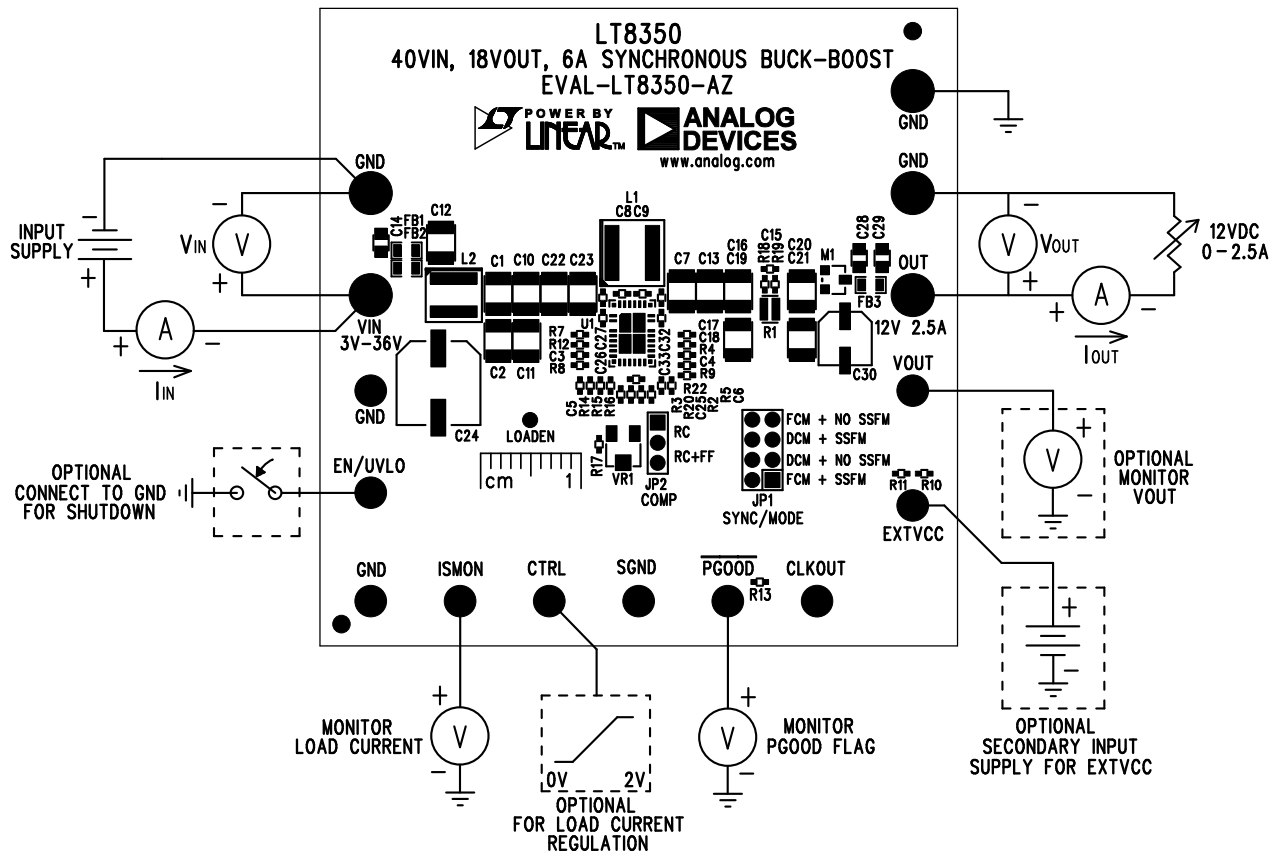

Figure 1. Test Procedure Setup Drawing for EVAL-LT8350-AZ
Evaluation circuit EVAL-LT8350-AZ is easy to set up to evaluate the performance of the LT8350. Refer to Figure 1 for proper measurement equipment setup and follow the procedure below.
1. With power off, connect a load capable of 12V 2.5A operation between OUT and GND turrets on the PCB as shown in Figure 1 .
2. Connect the EN/UVLO terminal to GND with a clip-on lead. Connect the power supply (with power off) and meters as shown in Figure 1 .